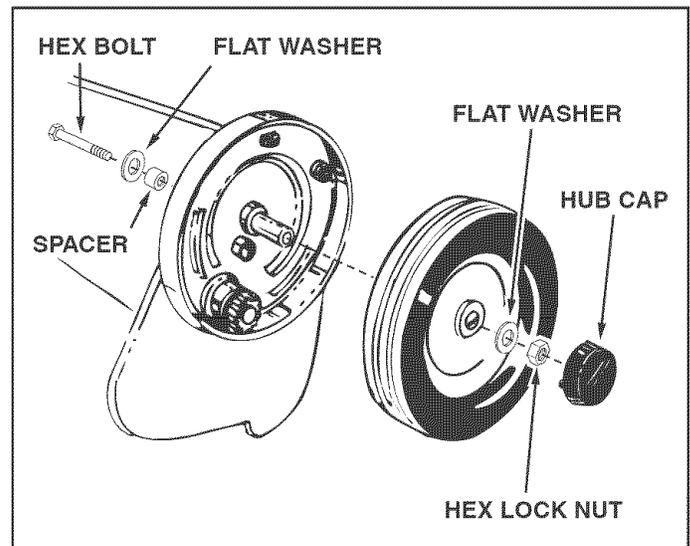

FIGURE 27
- Every two years, remove the wheels and clean the gears found inside the wheel housing. After cleaning, lubricate the gears with an even coat of light grease. To remove the wheel, pop off the hub cap and remove the lock nut and flat washer. See figure 27.